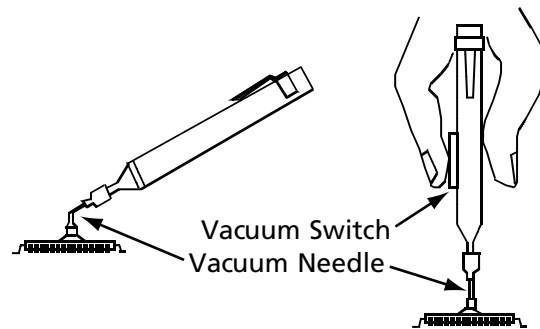

Figure 4: Vacuum Wand
1. Position the vacuum needle at the proper angle so that your index finger can rest on the vacuum switch (Figure 4).